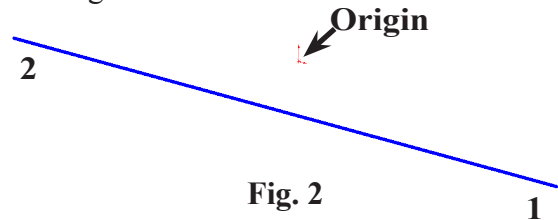

Fig. 2
Step 2. Click **Line**  (L) on the Sketch toolbar. The cursor should change to XY plane  indicating you are sketching in XY plane. If not, press Tab to switch sketch plane.
**Fig. 2**. To draw line on X axis, click away from Origin at approximately Position 1 to start line. Move cursor across sketch along X axis, when cursor changes to  (yellow X) click, Position 2.